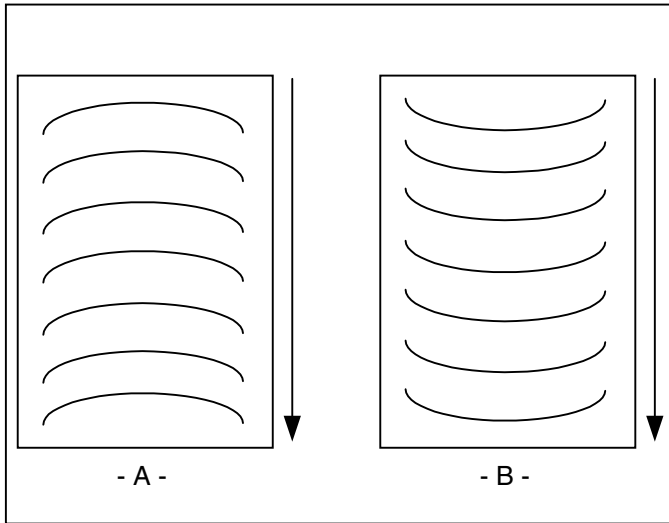

Fig. 46
1. “D” waves in the image (Figure 46 A).
2. “D” waves in the laminate (Figure 46 B).